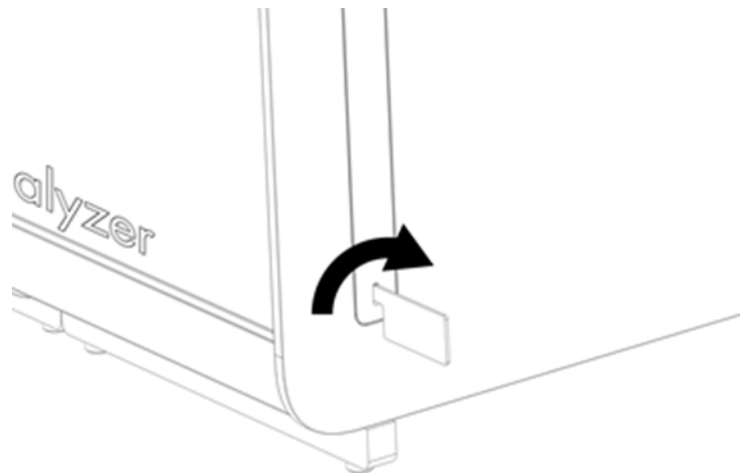

Figure 15. Removing protective covers.
- e. Remove the protective covers from the side of the Analytical Module, which is where the additional Analytical Module will be attached (Figure 15).
3. Remove the protective covers from the side of the Analytical Module using the Protective Cover Removal Tool delivered with the QIAstat-Dx Analyzer 2.0 (Figure 15).